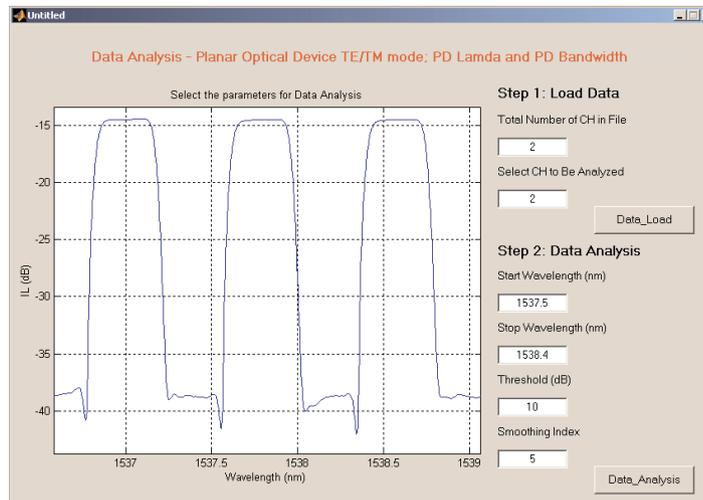

Figure 11. Zoom the analyzed area and input the data analysis parameters
After the data is loaded, use the left mouse button to zoom the area to be analyzed as shown in figure 11. Type the start and stop wavelengths for analysis. Select the IL threshold used for calculating the central wavelength (CW) and bandwidth (BW). Select the smoothing index used for noise reduction. As previously described, the definition of smoothing index is the same as the SWS application software. Click the “Data_Analysis” button. Again, it takes a few seconds to complete the calculation, depending on the amount of data saved in the .ppp file.